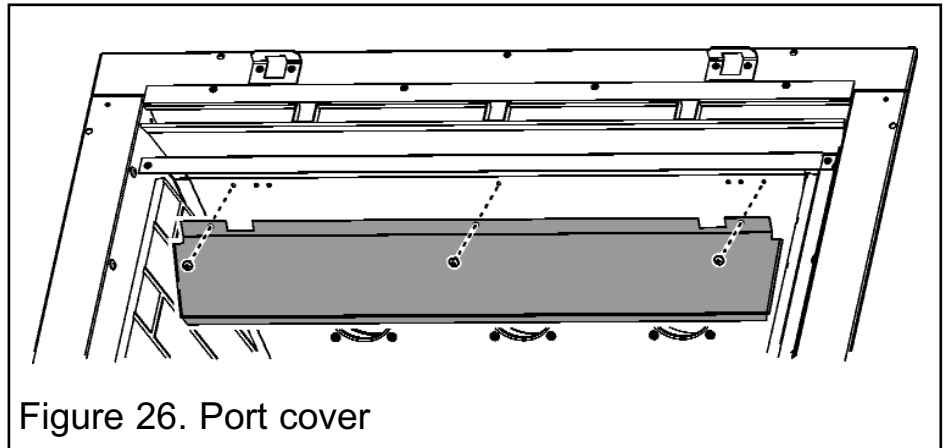

Figure 26. Port cover
The port cover supplied with the fire needs to be fitted to the inner top of the convection box. Locate the port cover, being careful not to scratch the ceramic side walls, and secure with three No. 8 x 3/8" screws supplied (See figure 26).
2. Support the upper port cover, then unscrew and remove the three securing screws (See figure 26). Gently remove the port cover ensuring that the side ceramic side walls are not scratched.